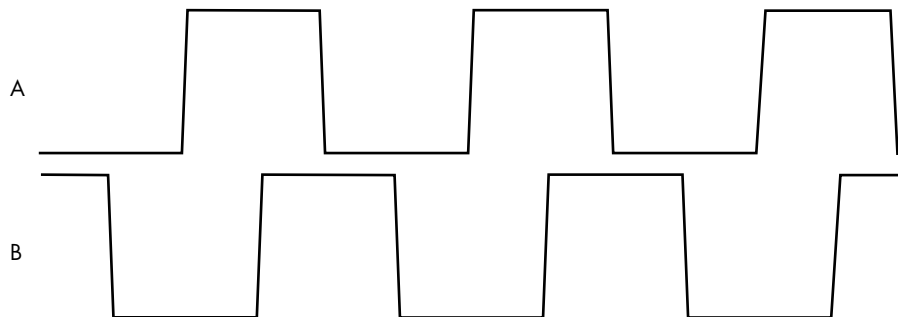

Figure 13-14: Rotary encoder output when rotating shaft clockwise
If you turn the shaft clockwise (CW) at a fixed speed, you will get the waveform shown in Figure 13-14 on pins A and B.
The output in Figure 13-14 is known as a *quadrature output*, where two out-of-phase signals determine the rotation direction, producing binary outputs similar to those shown in Table 13-5 over time.